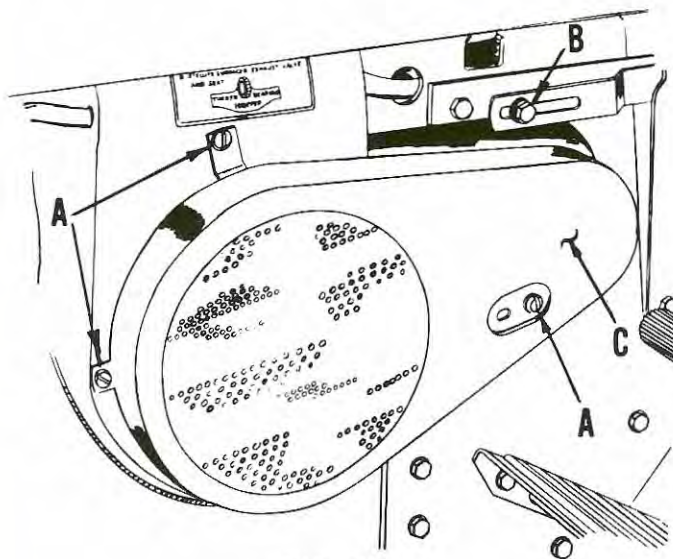

FIG. 25
- a. Remove the three screws (A, Fig. 25). This will allow removal of belt guard assembly (C, Fig. 25).